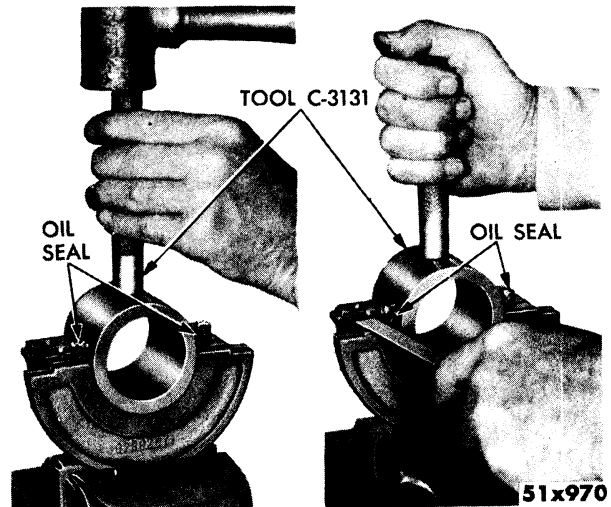

Fig. 23—Installing Rear Main Bearing Oil Seal
- (1) Install a new rear main bearing oil seal in the block so that both ends protrude. Tap the seal down into position, with Tool C-3131, until tool is seated in the bearing bore. Hold the tool in this position, then cut off the portion of the seal that extends above the block on both sides.
- (2) Install a new seal in bearing cap (bearing shell removed) so that the ends protrude. Tap seal down into position with Tool C-3131, as shown in Figure 23, until tool is seated. Trim off the portion of the seal that protrudes above cap, as shown in Figure 23. Install the two cap side seals in the grooves in the cap. Care should be used when installing these seals, as they are NOT interchangeable. The seal with the longer body should be installed on the oil filter side of the block. Seals incorrectly installed will cause an oil leak.